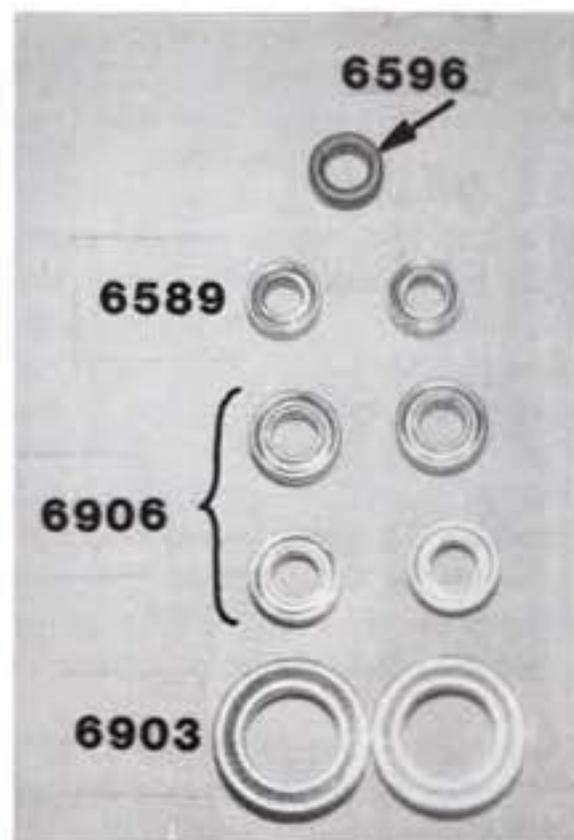

Fig. 38
□ **Figs. 38 & 39** Next open bag B which came from the Stealth transmission bag. In this bag you will find a total of eight bearings and one bushing. Take out the two smallest #6589 bearings. These have an outside diameter of 5/16" and an inside diameter of 5/32". Place one inside the center hole of the #6580 diff gear as shown in fig. 39. Set the second #6589 bearing aside, because we will be using it shortly.